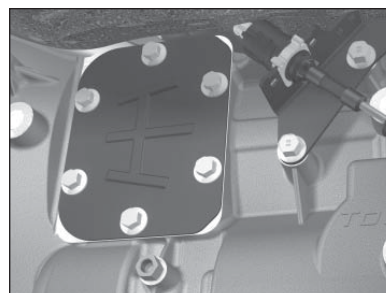

Figure 72
1. Remove the PTO aperture cover plate (**Fig. 72**).